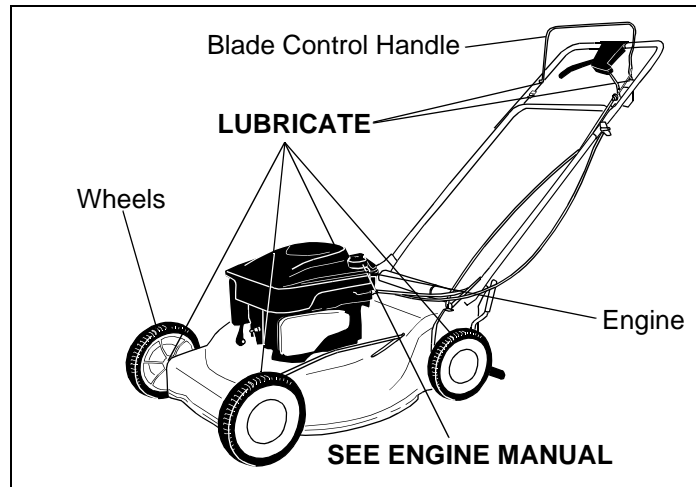

Figure 9
**Blade Control:** Lubricate the pivot points on the blade control handle and the brake cable at least once a season with light oil. See Figure 9. The blade control must operate freely in both directions.
**Wheels:** Lubricate the wheel at least once a season with light oil (or engine oil). Also, if the wheels are removed for any reason, lubricate the surface of the axle bolt and the inner surface of the wheel with light oil. See Figure 9.